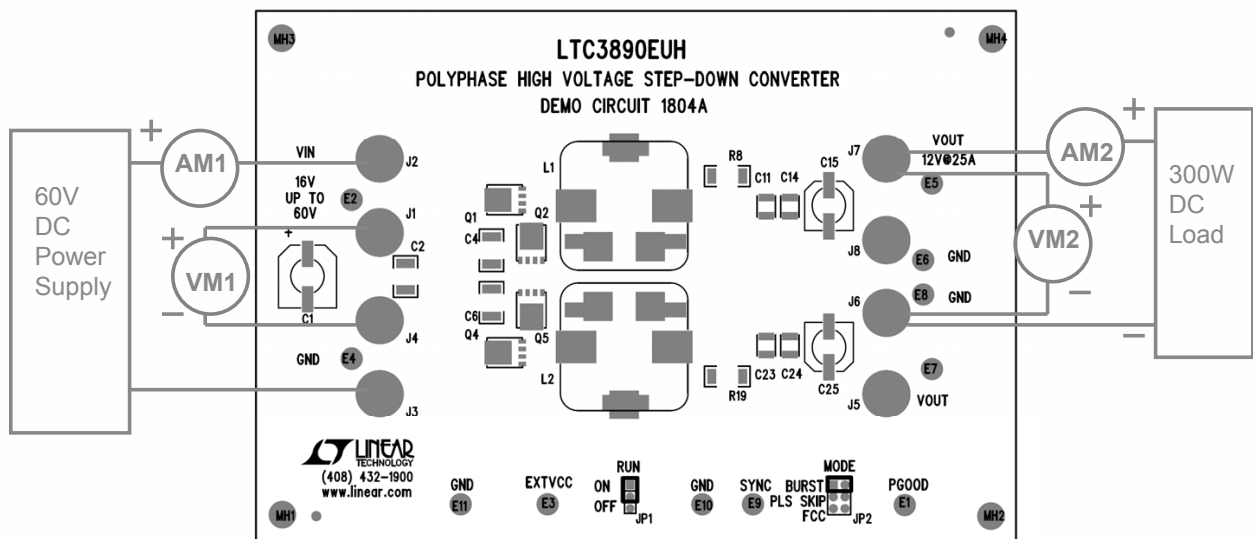

Figure 1. Proper Measurement Equipment Setup
Demonstration circuit 1804A is easy to set up to evaluate the performance of the LTC3890. For proper measurement equipment configuration, set up the circuit according to the diagram in Figure 1. Before proceeding to test, insert the shunt into the JP1 (RUN) off position, which connects the RUN pin to ground (GND), and thus, shuts down the circuit.
1. With the DC1804 set up according to the proper measurement and equipment in Figure 1, apply 20V at V_{IN} . Measure V_{OUT} ; it should read 0V. If desired, one can measure the shutdown supply current at this point. The supply current will be approximately 50 μ A, or less, in shutdown.